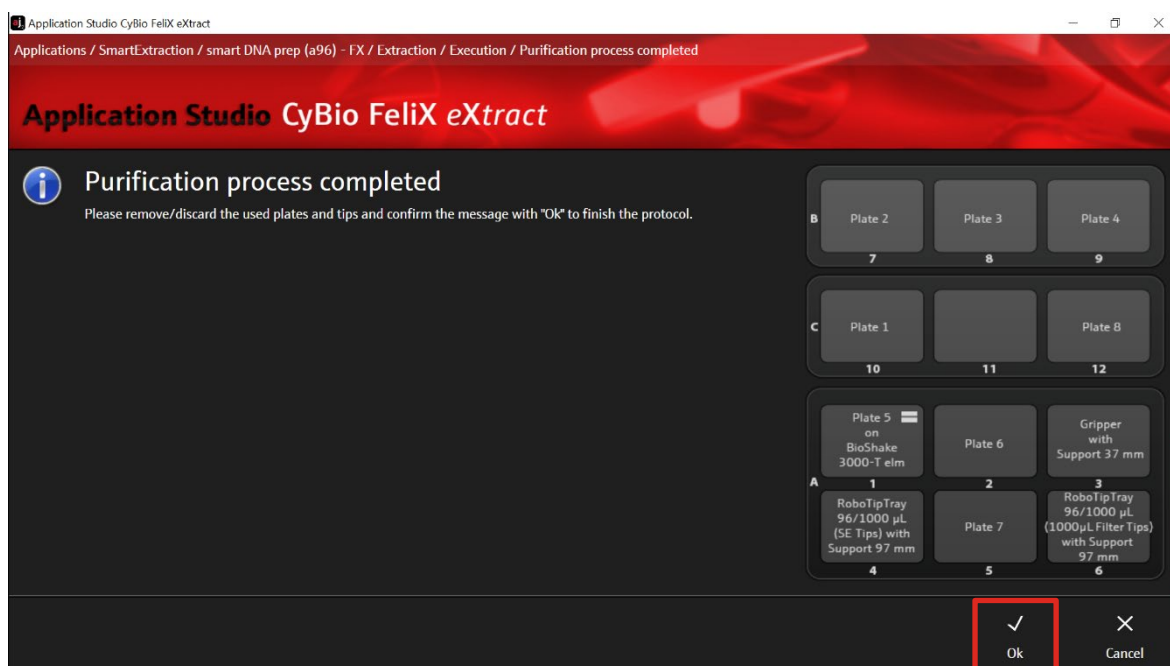

Figure 18: Purification process completed.
12. The chosen protocol is performed by device. After the protocol is finished, the message "Purification process completed" is displayed. Confirm the message with "Ok" (→ see Figure 18).